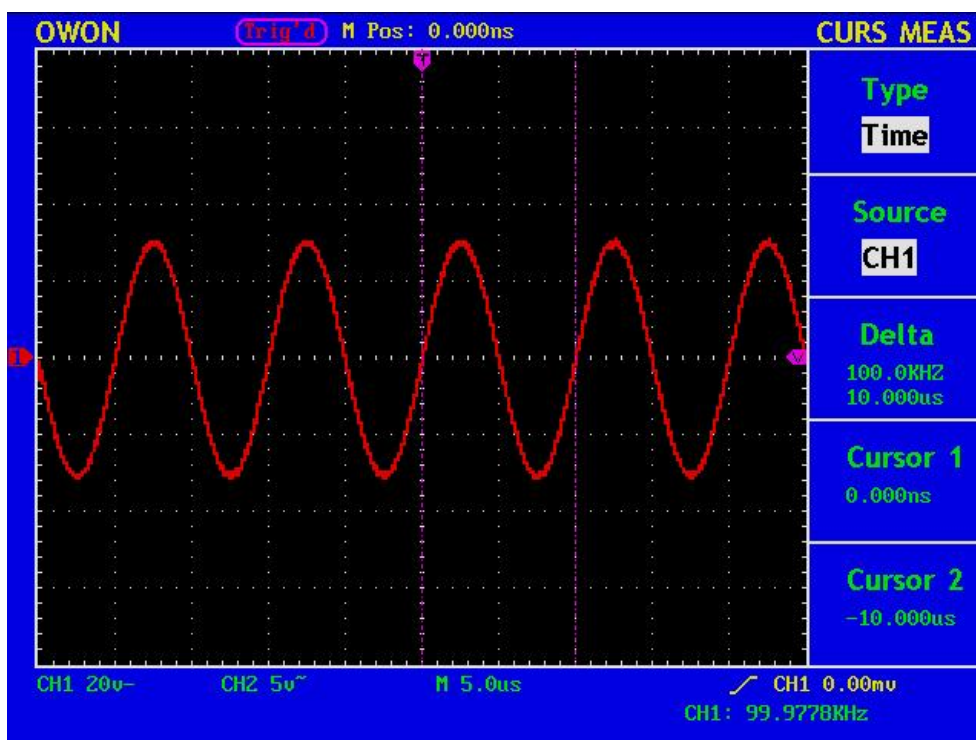

Fig. 72 Wave Form of Cursor Measurement
- Adjust the positions of **CURSOR1** and **CURSOR2** according to the measured waveform, with the period and frequency of Cursor1 and Cursor 2 displayed in the increment window. The current position of Cursor1 is displayed in the Cursor1 window and that of Cursor2 is displayed in the Cursor2 window (see Fig. 72).